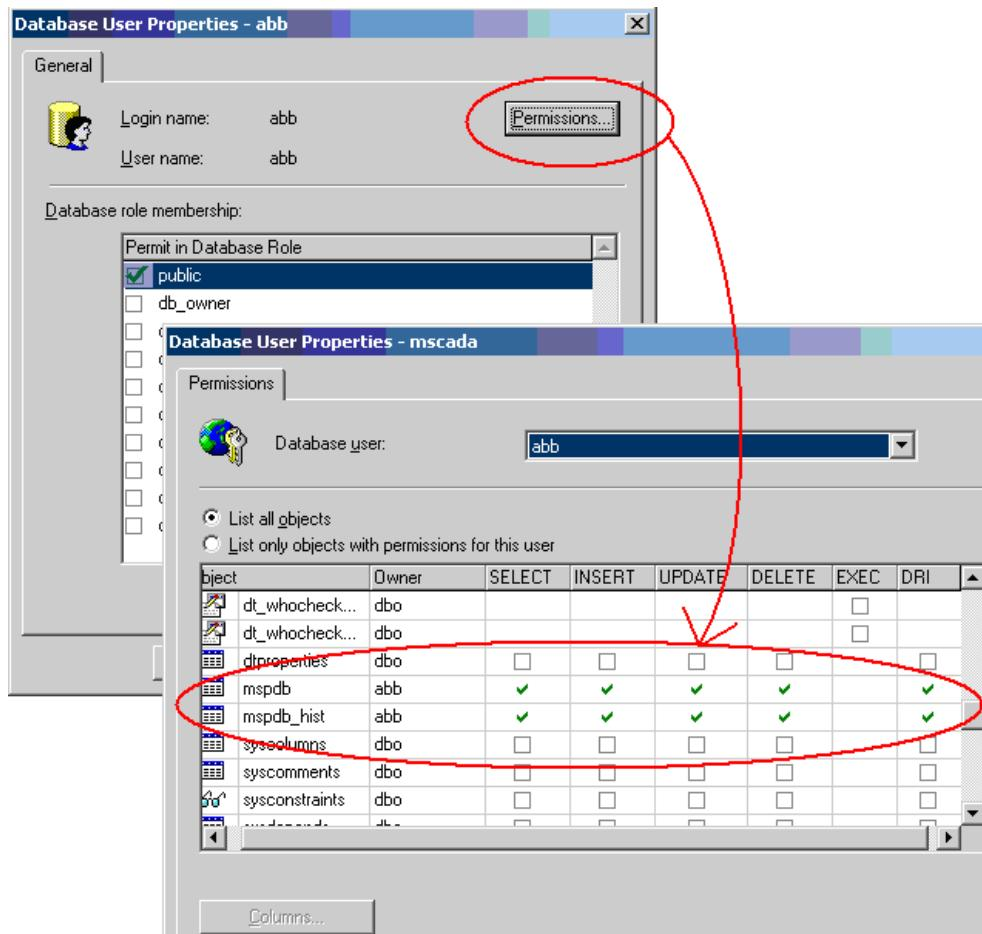

Figure 34: Defining access rights
10. Click **Properties** to open the **Database User Properties** dialog, see Figure 34.